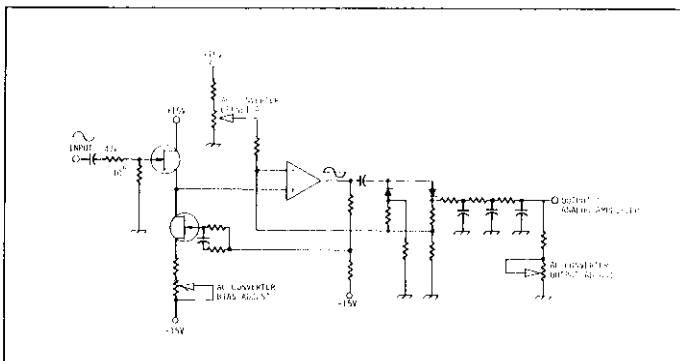

FIGURE 11. AC/DC Converter.
g. AC/DC Converter. This circuit provides the conversion of ac rms to mean-value dc for ac voltage and current. The signal is applied to the gate of FET Q1101 which is connected as a source follower. The signal is then converted by means of amplifier QA1101 which is connected as a non-inverting amplifier. See Figure 11.